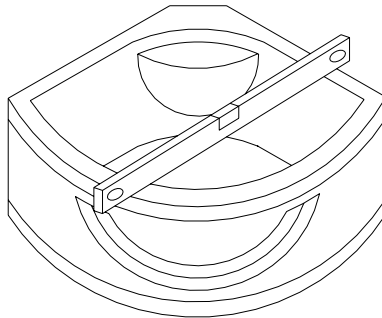

Fig.2
2. Move the basin to the scheduled position, level it with the level gauge. The level gauge should be two each other vertical positions at least, make the air of the level gauge in the center through regulating the adjustable bolts under the basin. After leveling, screw the adjustable nut tightly. Fig.2.